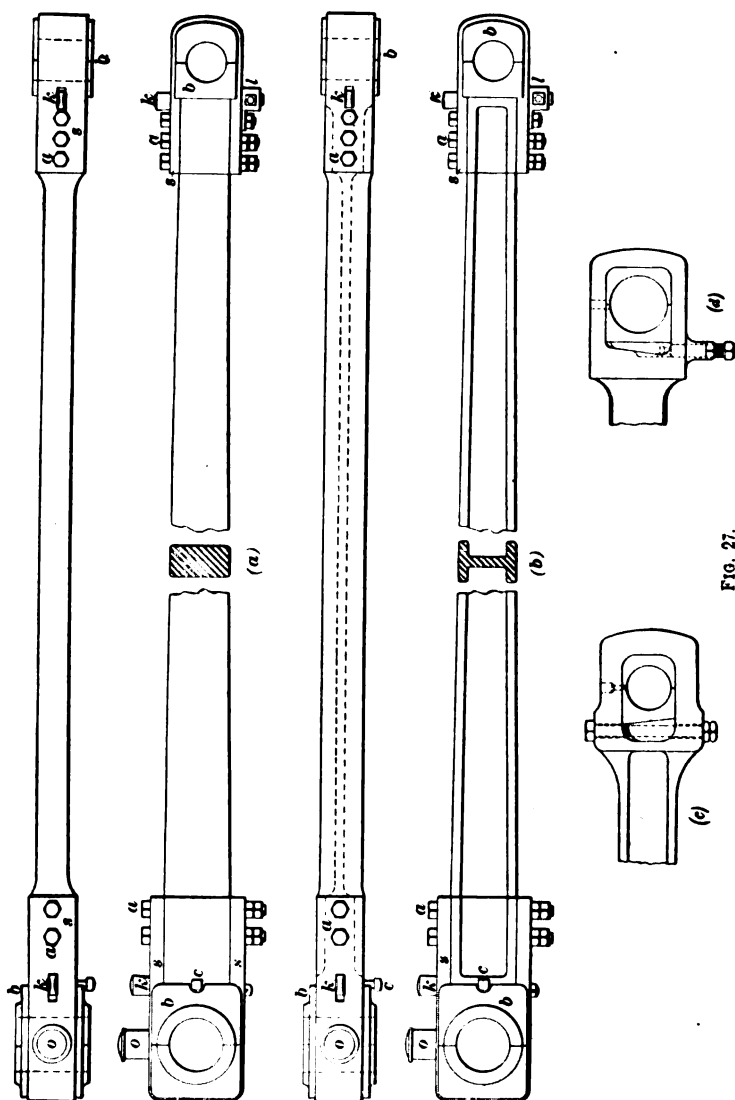

FIG. 27.
**26.** Two forms of **main rods** are shown in Fig. 27. The first rod, view (*a*), is a solid bar of rectangular section, while the second, view (*b*), is fluted or grooved out until it has a section similar to the letter **I**. The former style has been used quite extensively, but the tendency now is to use the latter type.